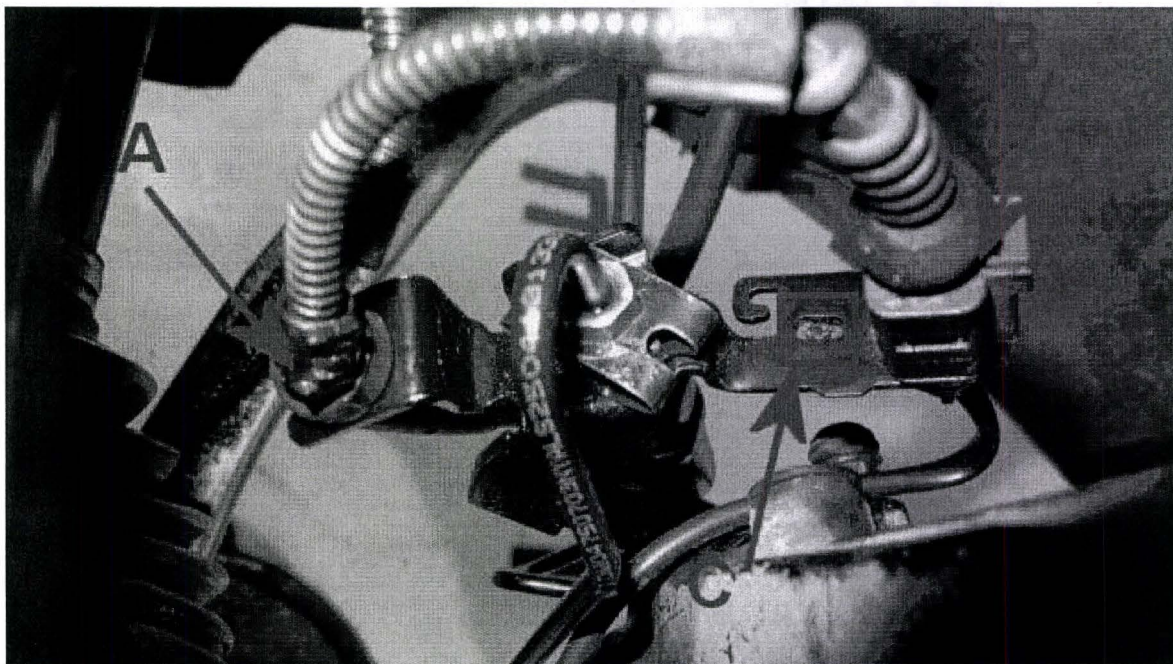

Figure 8
6. Refit the road wheel speed sensor loom grommet as shown in Figure 8 (point A)